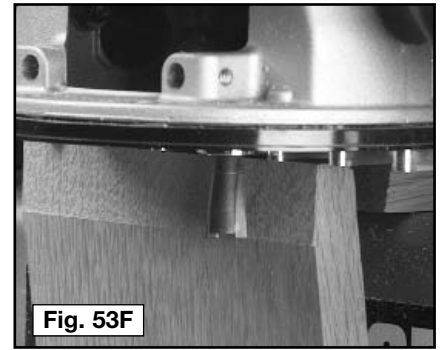

Fig. 53F
- Step 6** - Set the router bit depth where the sides of the board are at a slight angle (Fig. 53F).